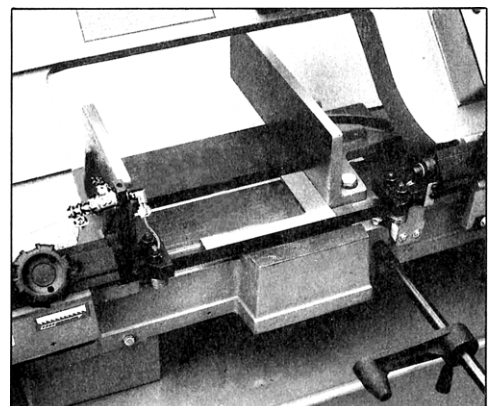

Fig. 13
2. Place a machinist's square as pictured in fig. 13 square should lie along entire length of vise and blade without a gap.